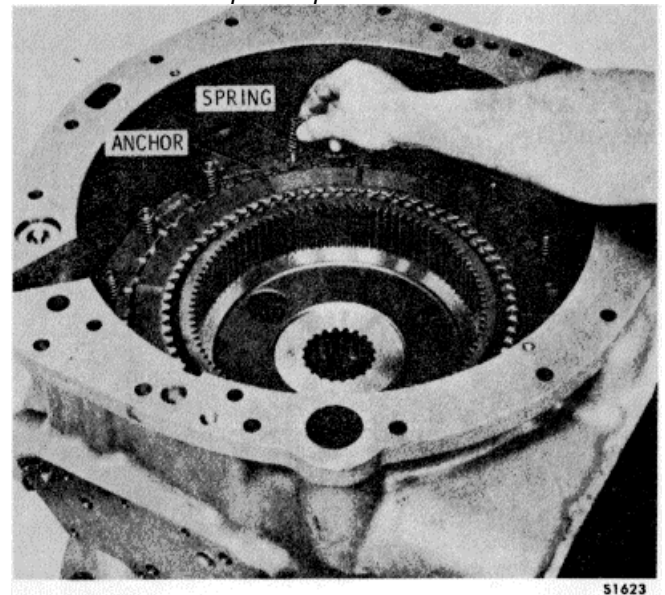

Figure 15-83. Removing Splitter-Overdrive Clutch Piston Return Springs
2. Remove fourteen splitter-overdrive clutch piston return springs (Figure 15-83) from the splitter-overdrive clutch anchor.